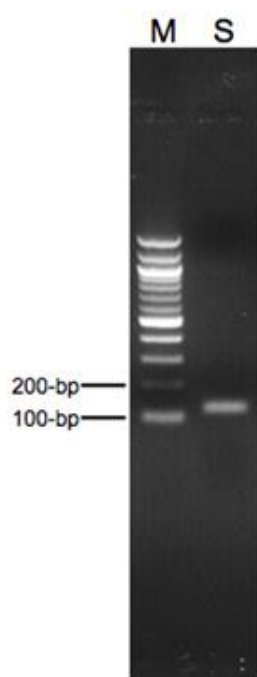

Figure 6. Gel electrophoresis of the PCR product. M = 100-bp DNA ladder. S = 5 μ l of sample.
3. Run and analyze 5 μ l of the PCR product on a 2% agarose gel with a 100-bp DNA ladder. You should see a single band at ~130 bp (see Figure 6).